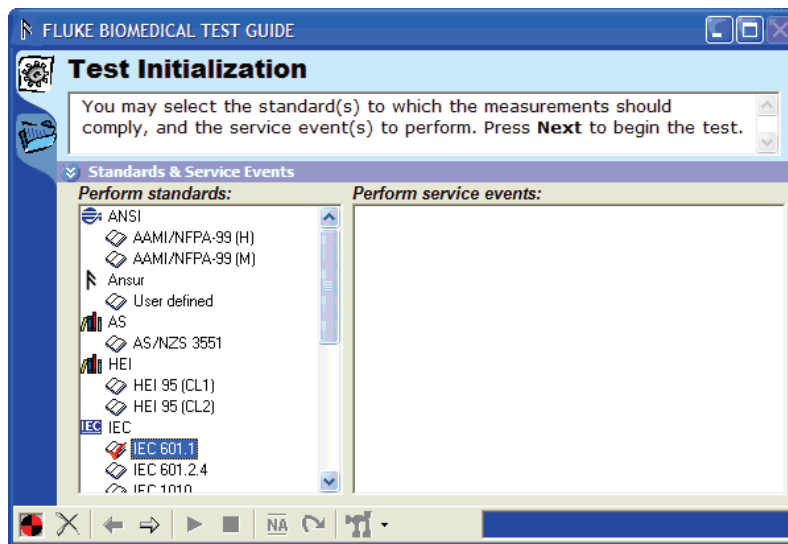

Figure 3-5. Test Initialization Window
2. Select the standard from the list in the Test Initialization window shown in Figure 3-5 that corresponds with the selected test template. For example, if IEC 60601 test template is opened, then select 601.1 standard and deselect the Ansur User Defined standard that is selected by default.